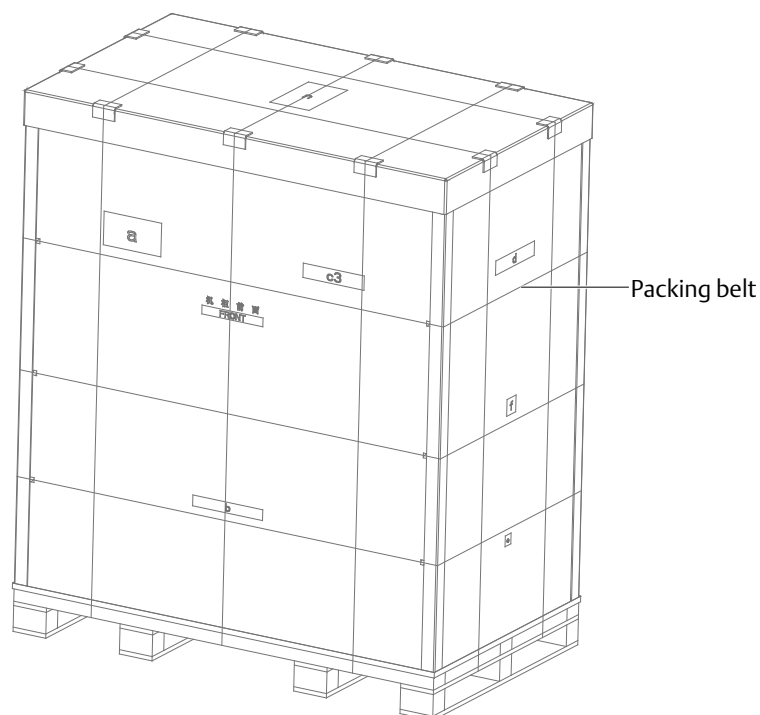

Figure 2-2 Removing the packing belts and honeycomb boards
1. As shown in Figure 2-2, remove the packing belts and honeycomb boards.